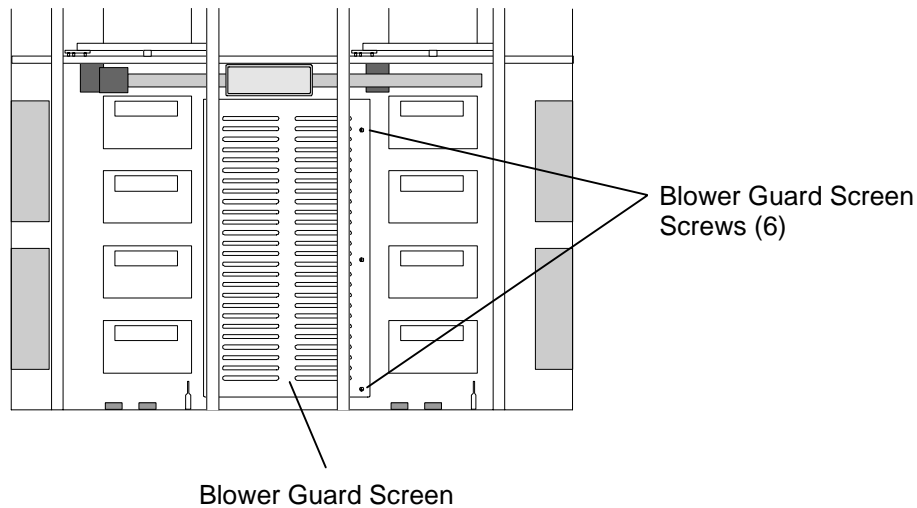

Figure 7-25 Blower Guard Screen in Dual Bay Model
3. Remove all six Phillips screws from the Blower Guard Screen. See Figure 7-25.